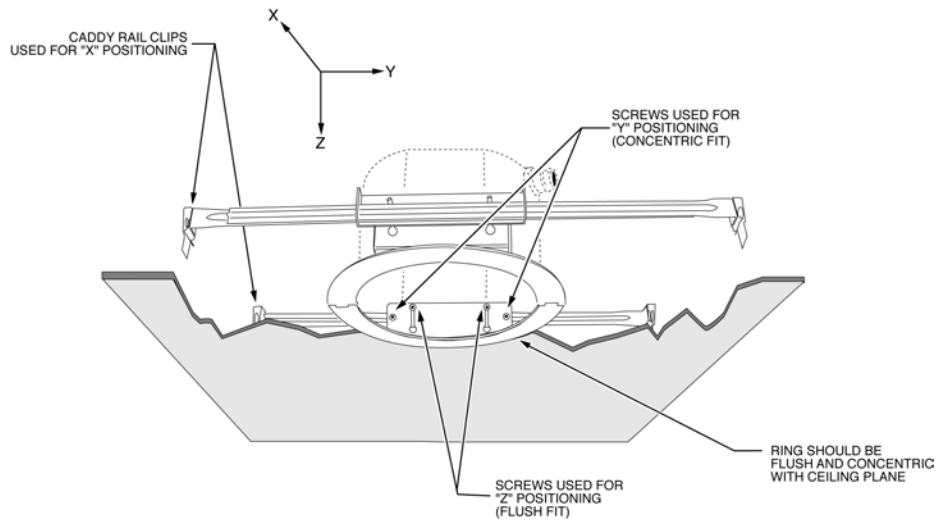

Figure 3B
5. With the ring concentric with the hole, slide the ring vertically along the support slots to obtain the best flush fit in the ceiling. The ring should be firmly seated against the tile without warping the tile. Refer to Figure 3B.